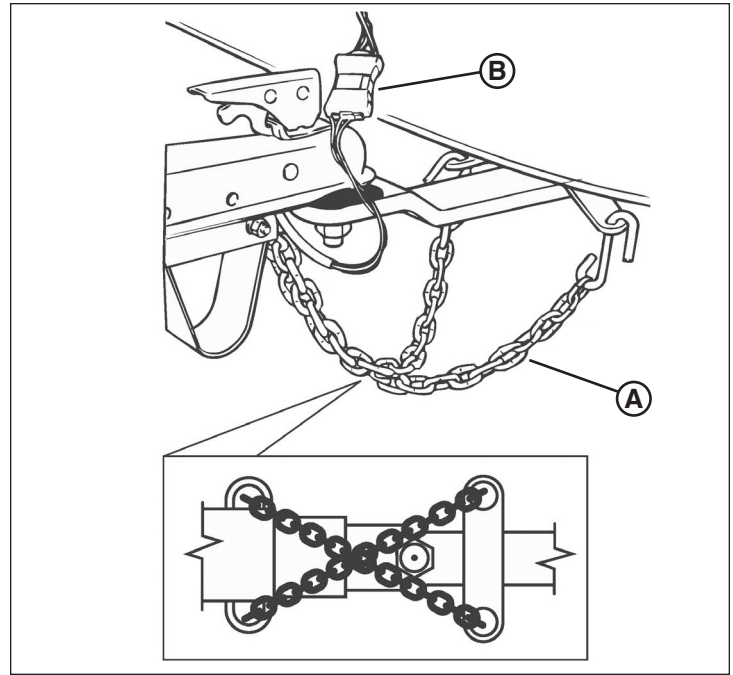

Figure 4
6. Attach the safety chains (A, Figure 4) to the tow vehicle's hitch frame. Cross the chains under the tongue as shown in Figure 4. Leave enough slack in the chains to allow for turns, but not so much that the chains will contact the road surface.
7. Connect the trailer lighting connector (B, Figure 4) to the tow vehicle's connector. Make sure that the trailer lighting harness has adequate length to prevent disconnection when turning, but not so much length that the harness will contact the road surface. Check the stop, turn signal, tail, side maker and license plate lamps for proper operation.